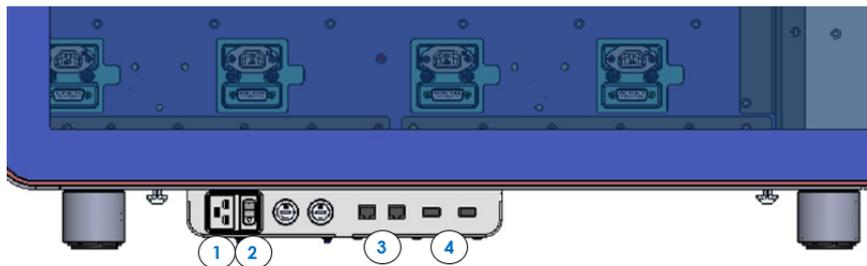

Figure 3. QIAstat-Dx Rise rear connection box.
1. First make sure the power switch at the side connection box of the instrument must be set in the "I" position (Figure 3). Then press the **ON/OFF** button on the front of the QIAstat-Dx Rise to start the unit (Figure 5).